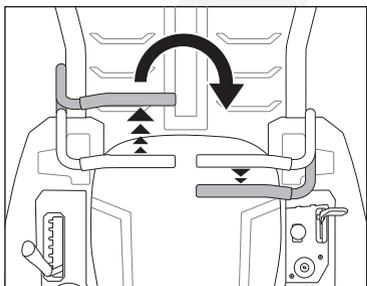

Fig.19A
2. To turn clockwise, move the left drive control lever forward while simultaneously moving the right drive control lever rearward. (Fig.19A)